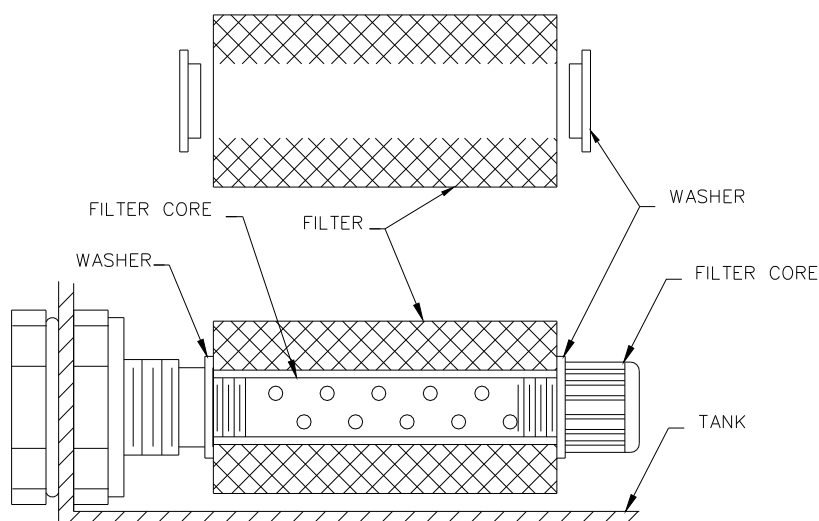

Figure 9-1
1. Unscrew the filter core assembly and remove it from the tank along with the element and washers (see figure 9-1).